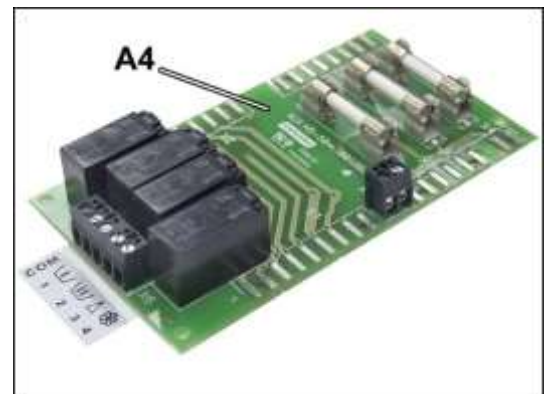

Fig. 3.18
- Connect the cables between the washer and the dosing unit to **A4** board in the order indicated in the table in section 3.6.4. (Figure 3.18).